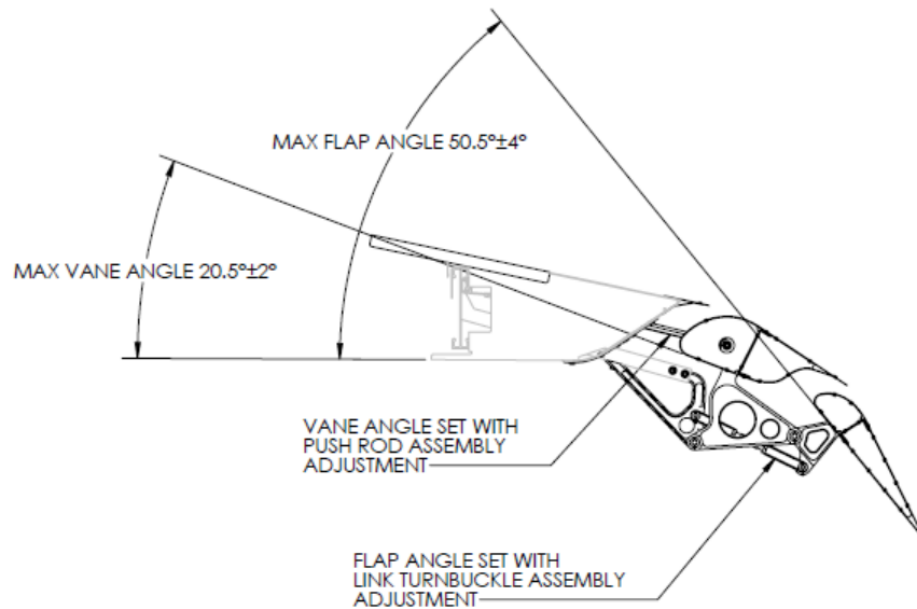

Figure 18: Maximum Flap Deployment Angles
29. Pull the flap handle to the fully deployed position and verify that the vane and flap deployment angles are equal or less than the maximum angles specified on PSTOL-0001 "Master Assembly, PA-18 Double Slotted Flaps" drawing, as depicted in Figure 18. Note that these are the nominal static maximum deployment angles for a Stock 3 position flap ratchet. Flap ratchet tolerances, cable slack and cable tension could vary per individual aircraft, and most installations will be less than the maximum angles specified. Exceeding maximum deployment angles could result in structural damage to the wing.